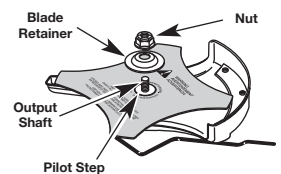

Fig. 9
4. Place the cutting blade on the output shaft bushing (Fig. 9).
5. Make sure that the cutting blade is centered on the pilot step and sitting flat against the output shaft bushing (Fig. 9).
7. Put the blade retainer and nut on the output shaft (Fig. 9). Make sure that the blade is installed correctly.
4. Remove the nut, blade retainer and blade (Fig. 9). Store the nut and blade together for future use in a secure place. Store out of children's reach.